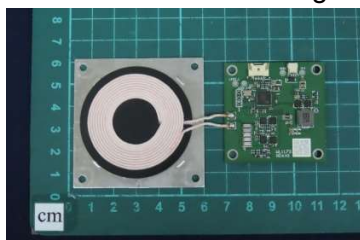

Figure 1 – Step2.
Step1. Take a wireless charger. See Figure1.